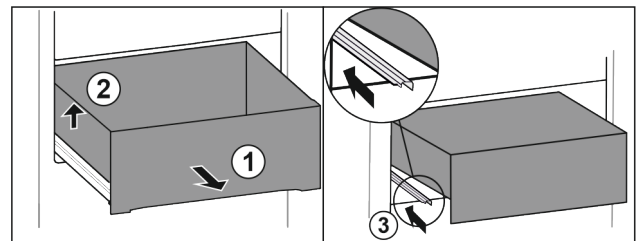

Fig. 71
- ▶ Pull out drawer as far as it will go. Fig. 71 (1)
- ▶ Lift drawer on the left. Fig. 71 (2)
- ▶ Insert left rail. Fig. 71 (3)